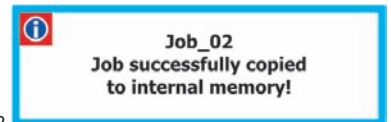

Fig. 162
- A confirmation message is displayed once copy is completed (Fig. 162). Press **ESC**.